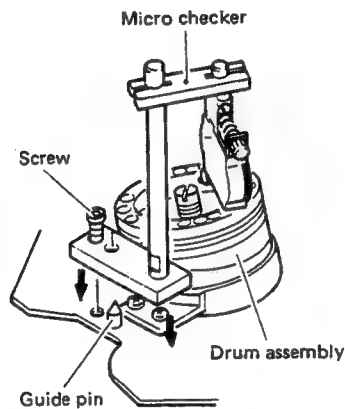

Fig. 2-34
3. Set the micro-checker (PUJ49712-2) on the guide pin as shown in Fig. 2-34. Use the accessory hex wrench (metric) to tighten the fixing screw.